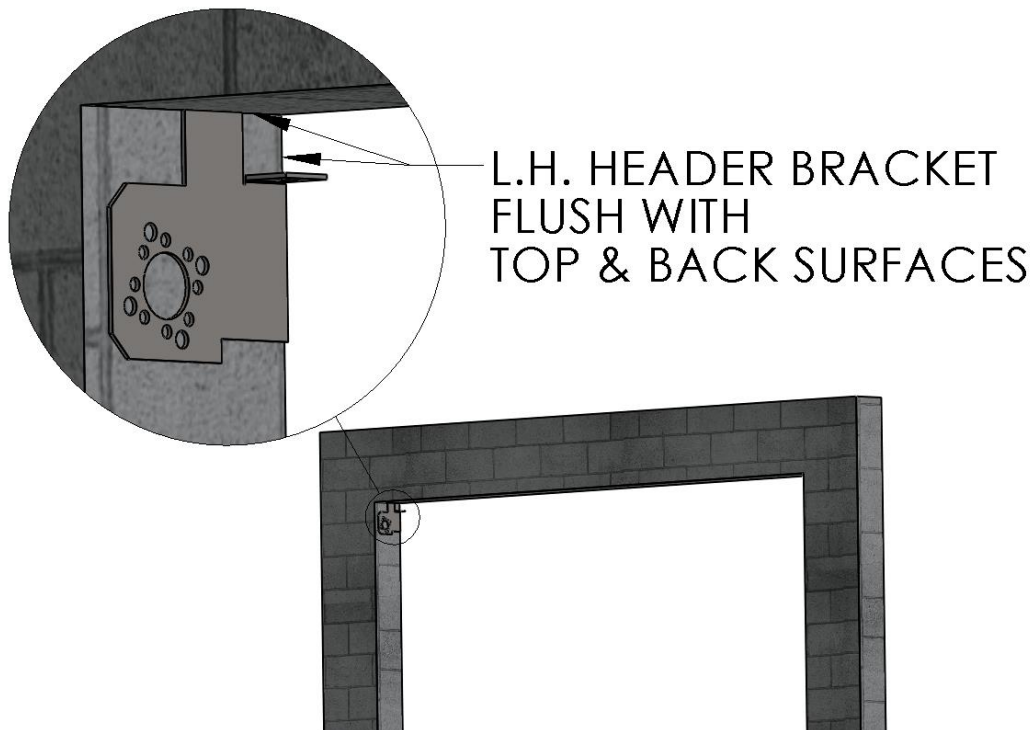
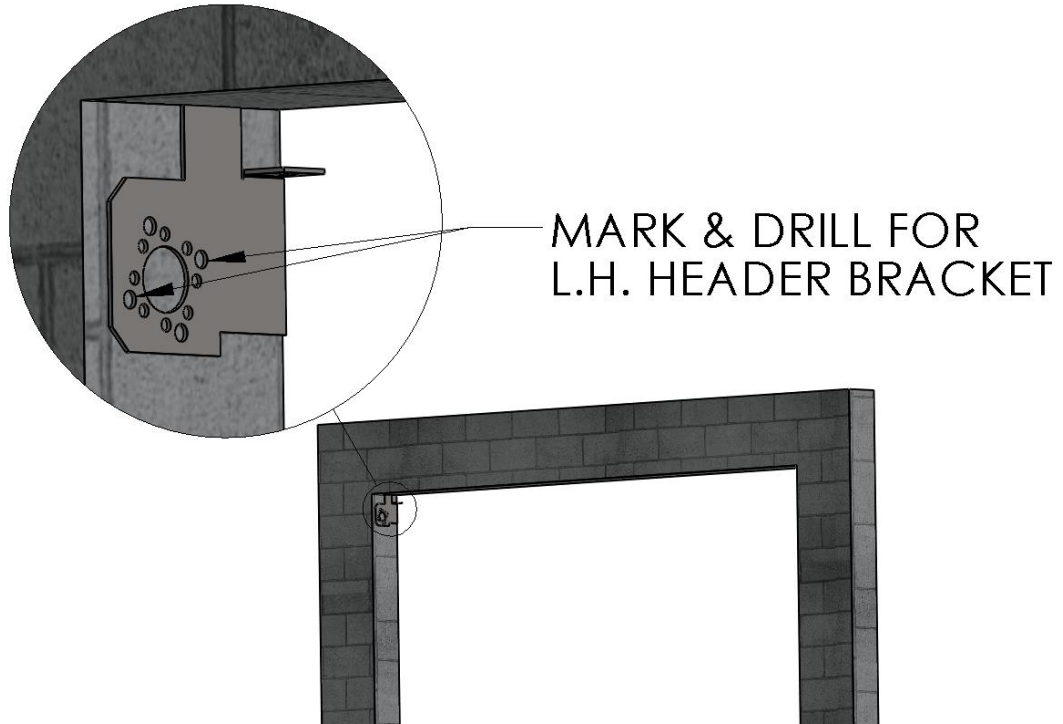

Figure 1 LOCATE L.H.HEADER MOUNTING BRACKET
Figure 2 MARK/DRILL L.H. HEADER MOUNTING BRACKET
1. At the upper left of the door opening, use the L.H. Header Mounting Bracket to transfer hole locations to the mounting surface.(Figure 1 LOCATE L.H.HEADER MOUNTING BRACKET) & (Figure 2 MARK/DRILL L.H. HEADER MOUNTING BRACKET)